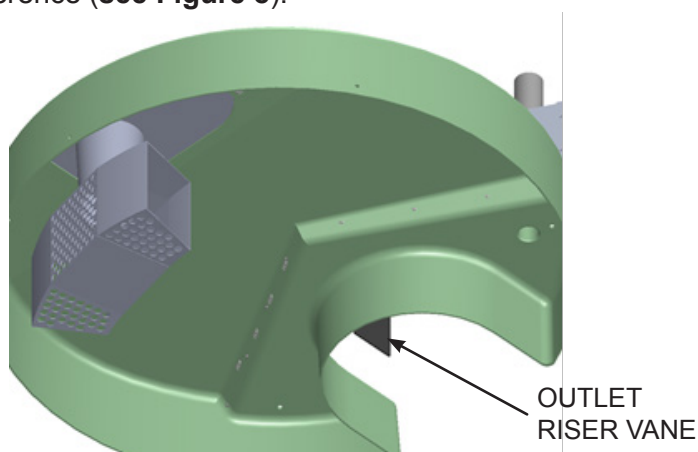

Figure 8
- The Outlet Riser Vane is durable and flexible and designed to allow maintenance activities with minimal, if any, interference (see **Figure 8**).